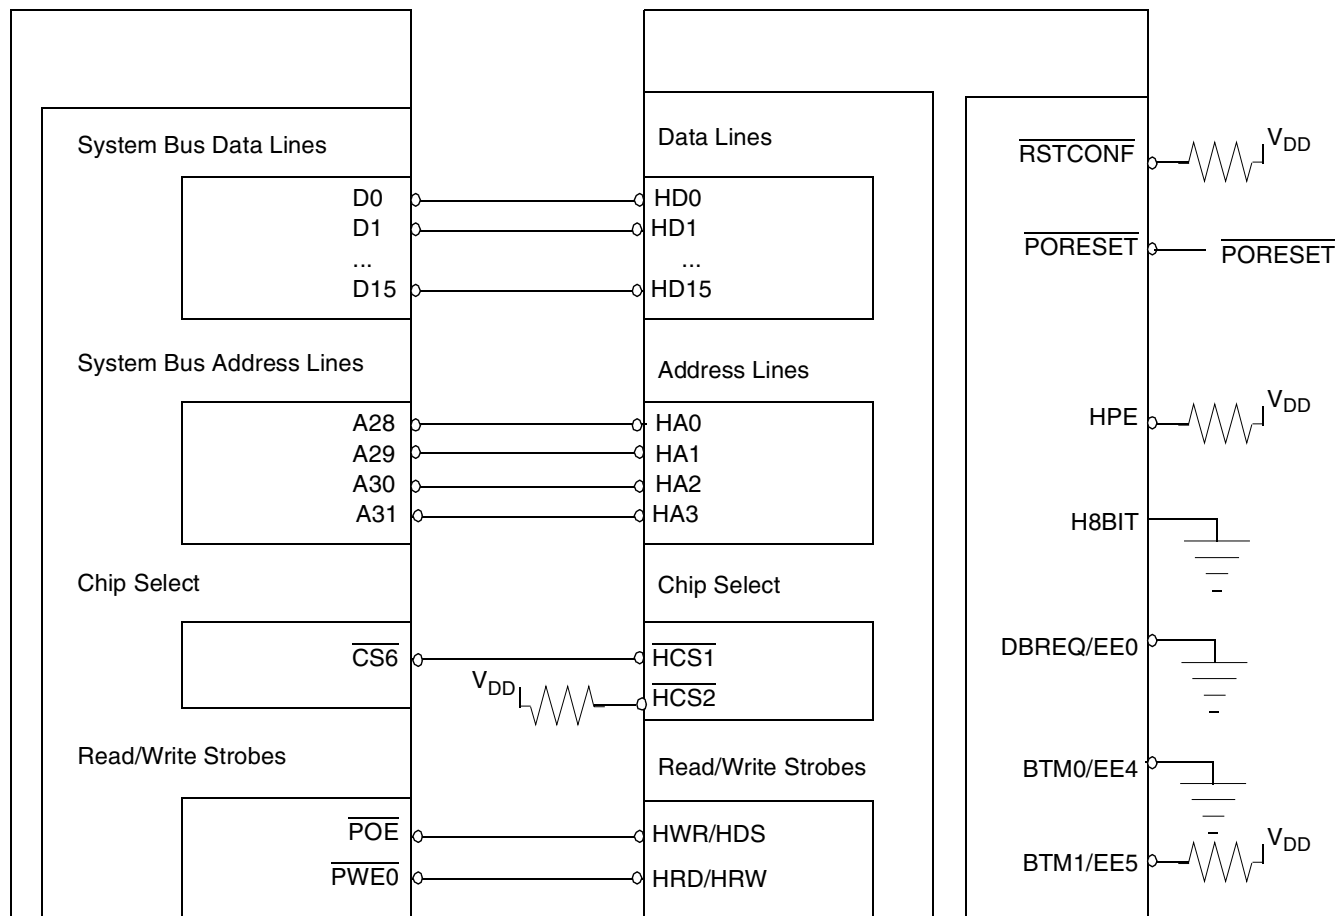

Figure 2. MSC8103 Slave Reset Configuration Set-up For 16-Bit HDI16 Functionality
**Figure 2** shows an example host processor connected to the HDI16 port of a slave MSC8103 device. The system data bus lines of the host processor (D[0–15]) directly connect to the data lines of the HDI16 port (HD[0–15]). Since the MSC8103 is a big-endian device, the D0 pin is the most significant. In addition to the data bus lines, the system address bus lines (A[28–31]) directly connect to the host address lines of the HDI16 (HA[0–3]). There are two chip selects for the HDI16, which are active low. In this example,  $\overline{\text{HSC1}}$  is connected to the memory controller chip select, and  $\overline{\text{HSC2}}$  is pulled high. The read and write strobes are also critical for data transfers, and they must be connected as shown.